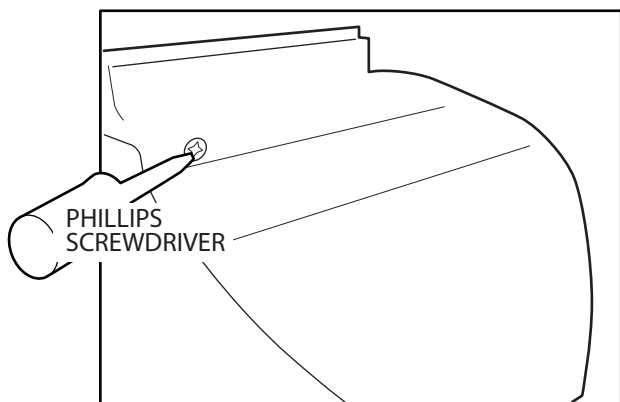

Figure 1. Remove caps and screws from side of dome casting cover. (Right side/Front view)
1. **Remove plastic dome casting cover from chair.** Gently pry off decorative white plastic screw head covers. *Please refer to figure 1 & 2.* Remove (4) Phillips head screws and plastic countersink washers (one from each side and two from the top surface).